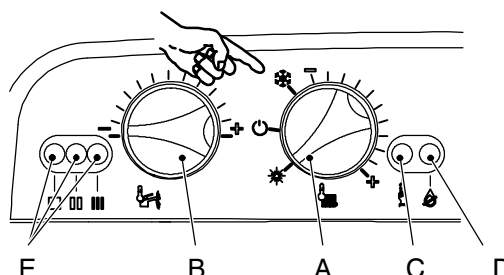
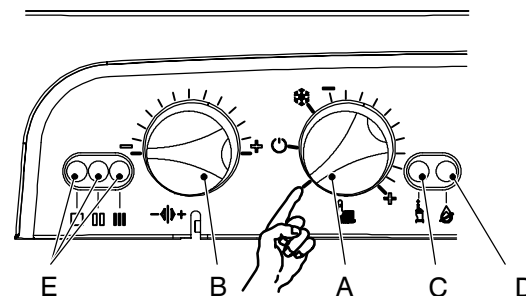

Fig. 41
Fig. 42
- 4 Turn the boiler ON positioning the function selector knob A as indicated in Fig. 41 (M96.24SM/..., M96.28SM/...) or Fig. 42 (M96.28SR/...). and ensure that the timer selector switch and room thermostat, if fitted, are set to "heat demand". Run the boiler in c.h. mode (do not open any d.h.w. tap).